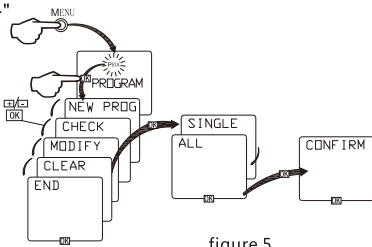

figure 5
(5) clear program Settings (see figure 5) :